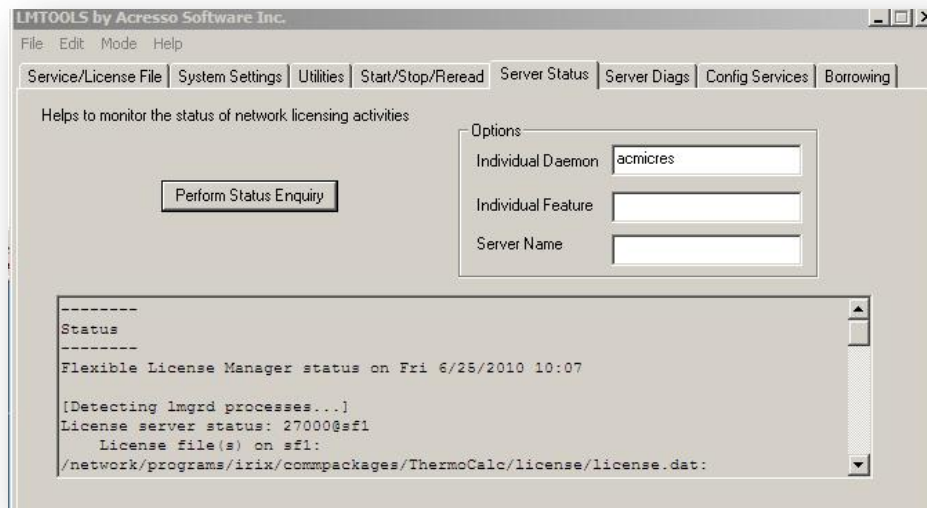

Figure 3.9. Checking the Server status for the vendor daemons acmicres (top) or thermo_c (below)
- **Server status** counts the number of licensing activities and shows if the vendor demon is running. The server name in this example is "sf1". Figure 3.9 reflects the